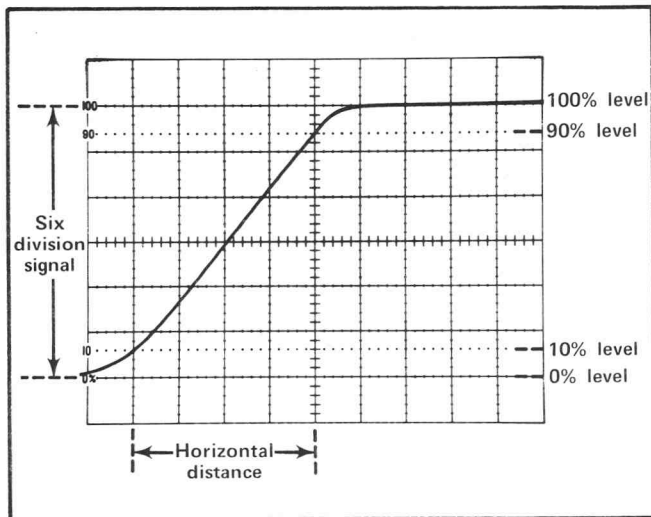

Fig. 4. Measuring risetime.
4. Center the display about the center horizontal graticule line. See Fig. 4.
6. Adjust the horizontal POSITION control to move the 10% point of the waveform to the first graticule line. See Fig. 4.
Example. Assume that the horizontal distance between the 10% and 90% points is four divisions (see Fig. 4) and the TIME/DIV switch is set to 1 μ s.